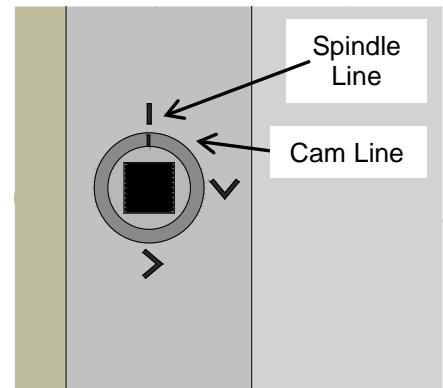

figure 17
- 2) Turn the first cam counterclockwise (**ccw**) using the chuck key until the line on the cam is aligned with the line on the spindle housing as shown in (fig. 17).